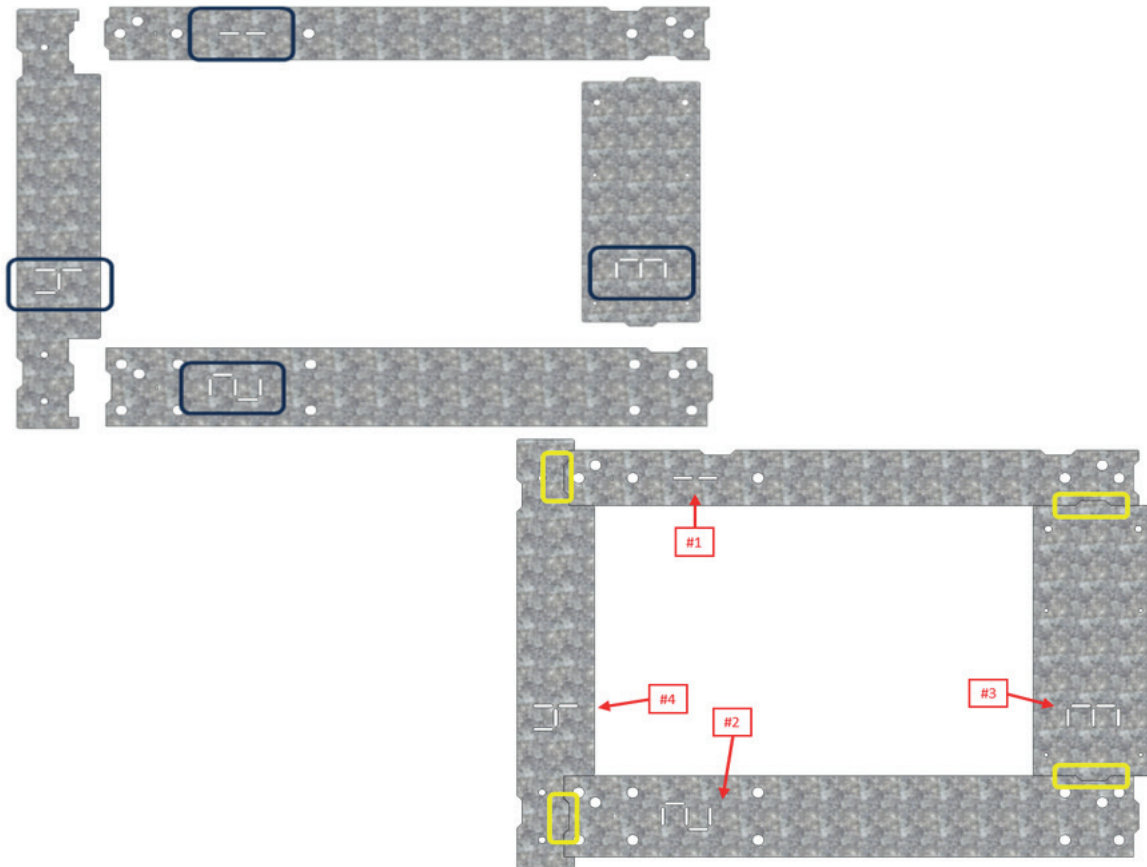

Figure 55. Templates 1, 2, 3 & 4 in the final assembly
2. **Position the Templates:** Identify templates #1, #2, #3 & #4. Assemble them as shown in Figure 55, ensuring they are properly aligned using the features highlighted in yellow in the figure. See the alignment features highlighted in Figure 55 in yellow.